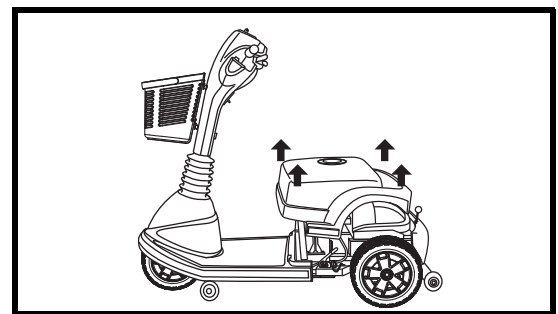

Figure 18. Rear Shroud Removal
3. Gently lift the rear shroud off of the scooter. See figure 18.